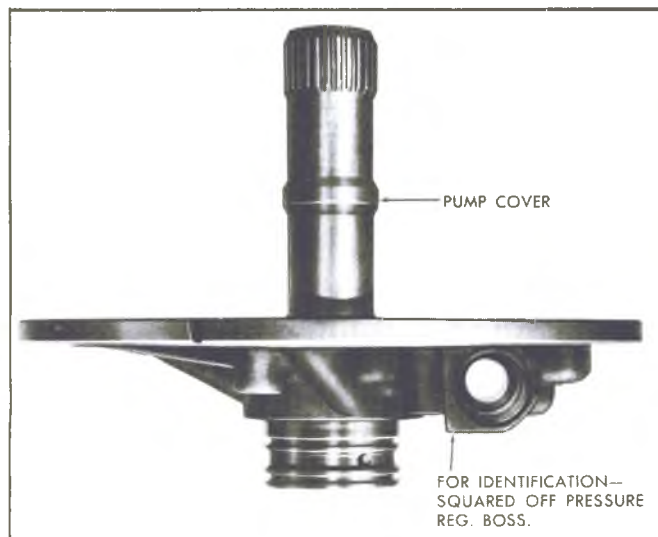

Fig. 29T—Pressure Regulator Valve
**NOTE:** A solid type pressure regulator valve must only be used in a pump cover with a squared-off pressure regulator boss (See Figure 29T). A pressure regulator valve with oil holes and orifice cup plug may be used to service either type pump.